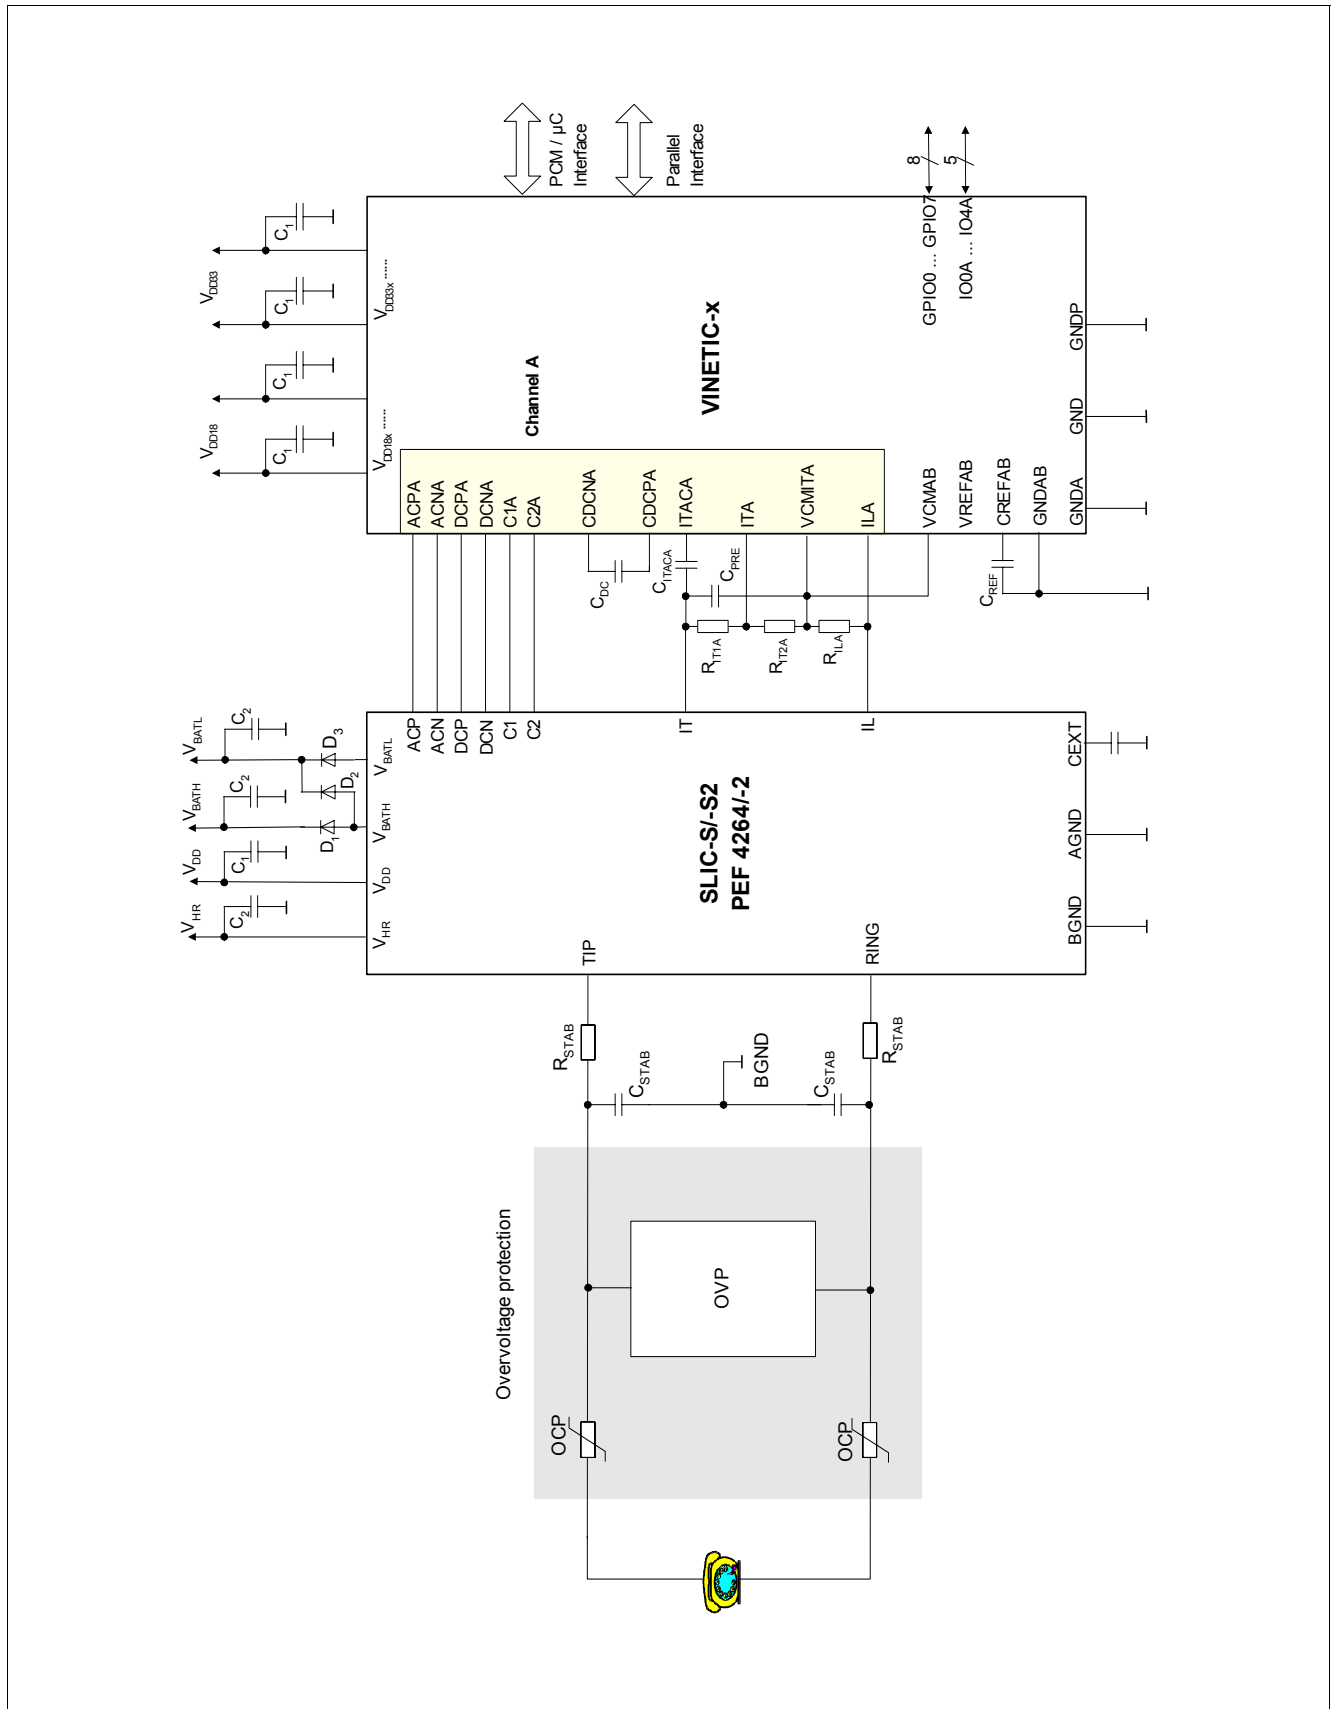

Figure 9 Application Circuit VINETIC®
**Figure 8** to **Figure 9** show one channel of application circuits including SLIC-S / TSLIC-S V2.1 and SLICOFI®-2/-2S or VINETIC® codec (please refer to the latest DuSLIC® or VINETIC® Data Sheet).